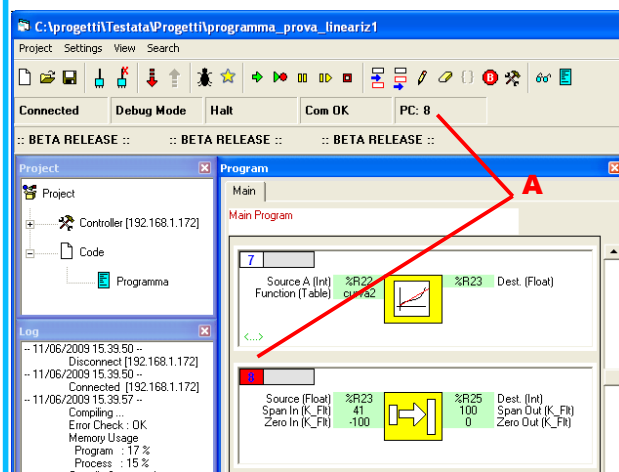
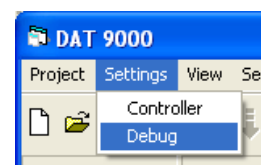

Fig. 6.8
Fig. 6.9
The Function Block in execution is identified by the Index parameter coloured in red and is updated the PC (“*Program Counter*”) value (Fig.6.8-A). Open the “*Settings*” window (Fig.6.9), selecting “*Settings -> Debug*” to set the following options for the Debug modality:
- “*Run-Time Register Update*” (Fig.6.9-A) – If active, in “Run” condition the table Register will be automatically updated (1 read per second)
- “*Animate Time*” (Fig.6.9-B) – Setting of the playing time between one step and the successive in the “Animate” condition.